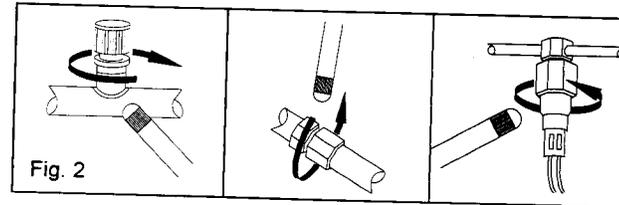

Fig. 2
5. At each area checked, the probe should be moved around the location, at a rate no more than 25 to 50 mm/second (1-2 in/second), and no more than 5 mm (1/4 in) from the surface, completely around the position. Slower and closer movement of the probe greatly improves the likelihood of finding a leak (see Fig. 2, below). Any increase in tick rate is indicative of a leak.